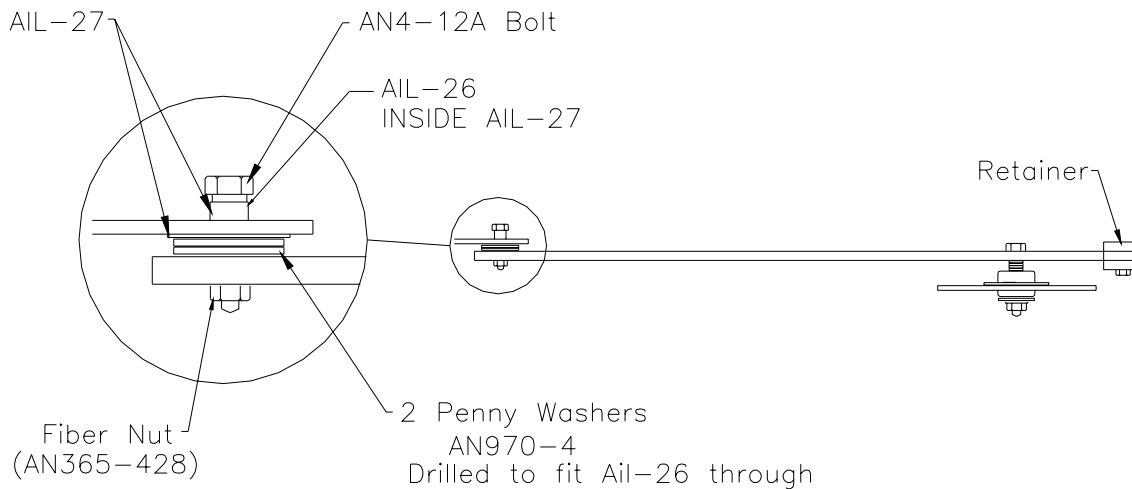

Figure 20.5.17
28) Slide the wide end of the mixer arm between the retainers and attach mixer arm to the rear doubler. The arm should move freely within the retainers. Sanding of the arm may be required. Figure 20.5.17.